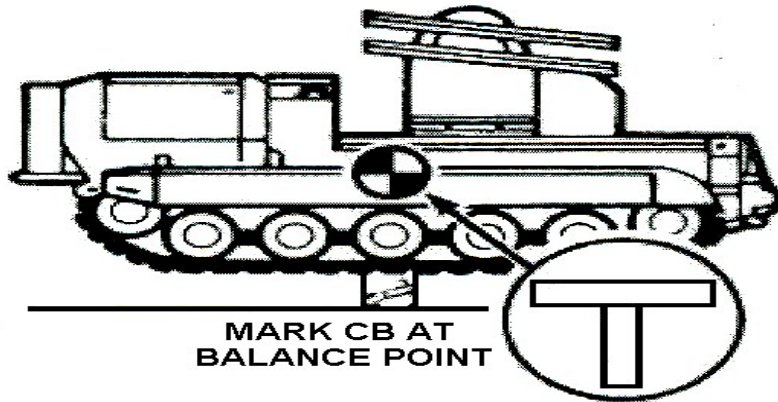

Figure 3-138
9. Direct personnel to mark the center of balance and gross weight of a tracked vehicle using prescribed procedures (see Figure 3-138).